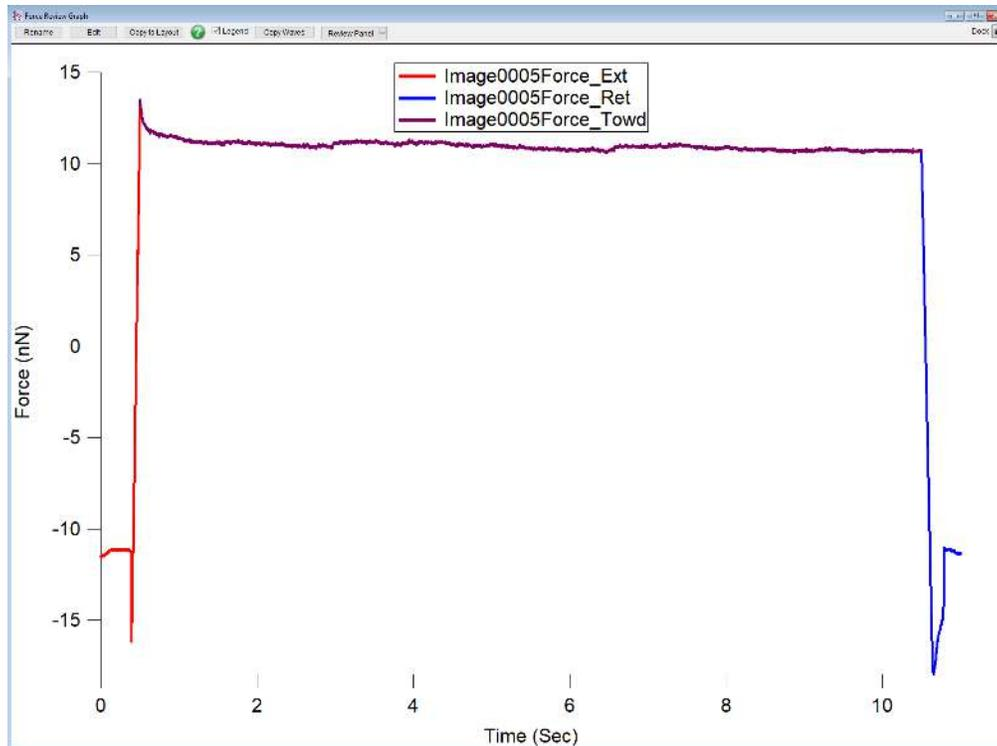

Figure 18.16.: Deflection vs. Time Plot
To display time as the X-axis, activate the 'Time' radio button towards the bottom of the Force Channel Panel. Figure 18.16 on page 246 shows an example of a Deflection (Y) vs. Time (X) plot assigned via the Force Display Panel. The inset shows the X-axis radio label selected to assign time as the X axis; 'Deflection' would be checked in the Column tab.
18.2.7. Closed Loop (Z) Activation